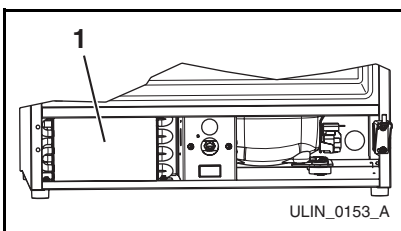

Figure 6
5. Clean the condenser coil (Figure 6, 1) using a using a soft brush with a "combing" action or vacuum cleaner. Do not touch the condenser coil.